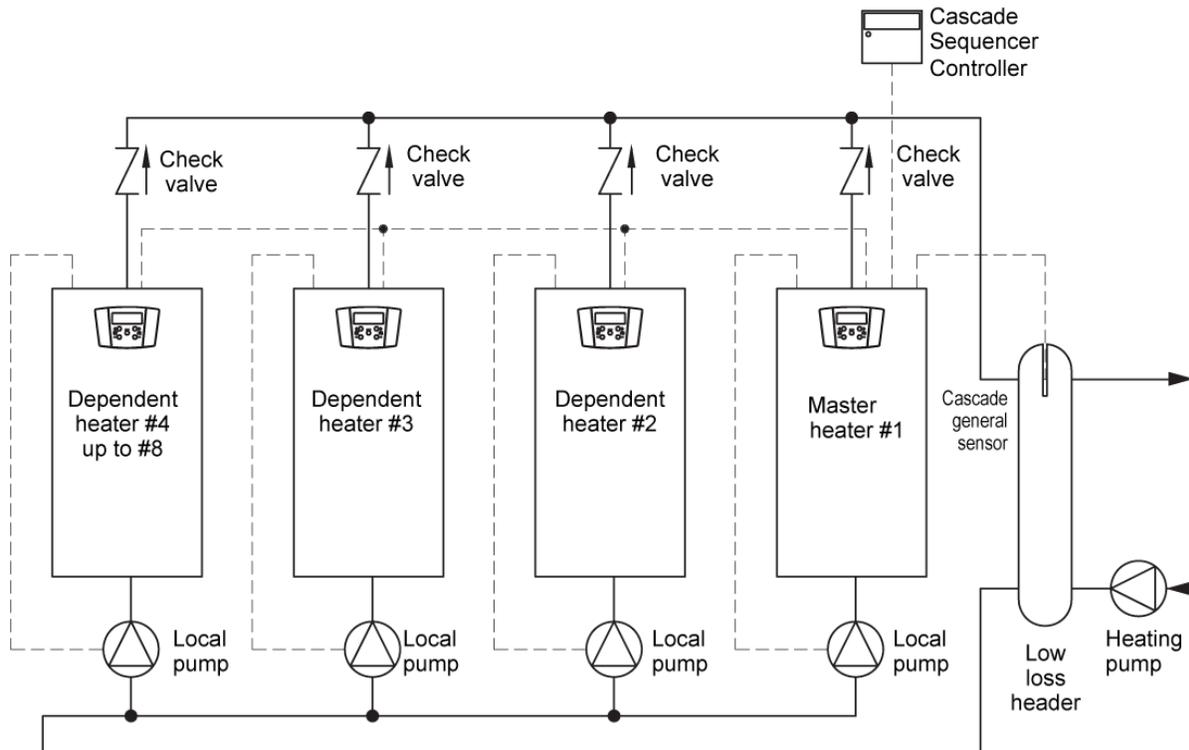
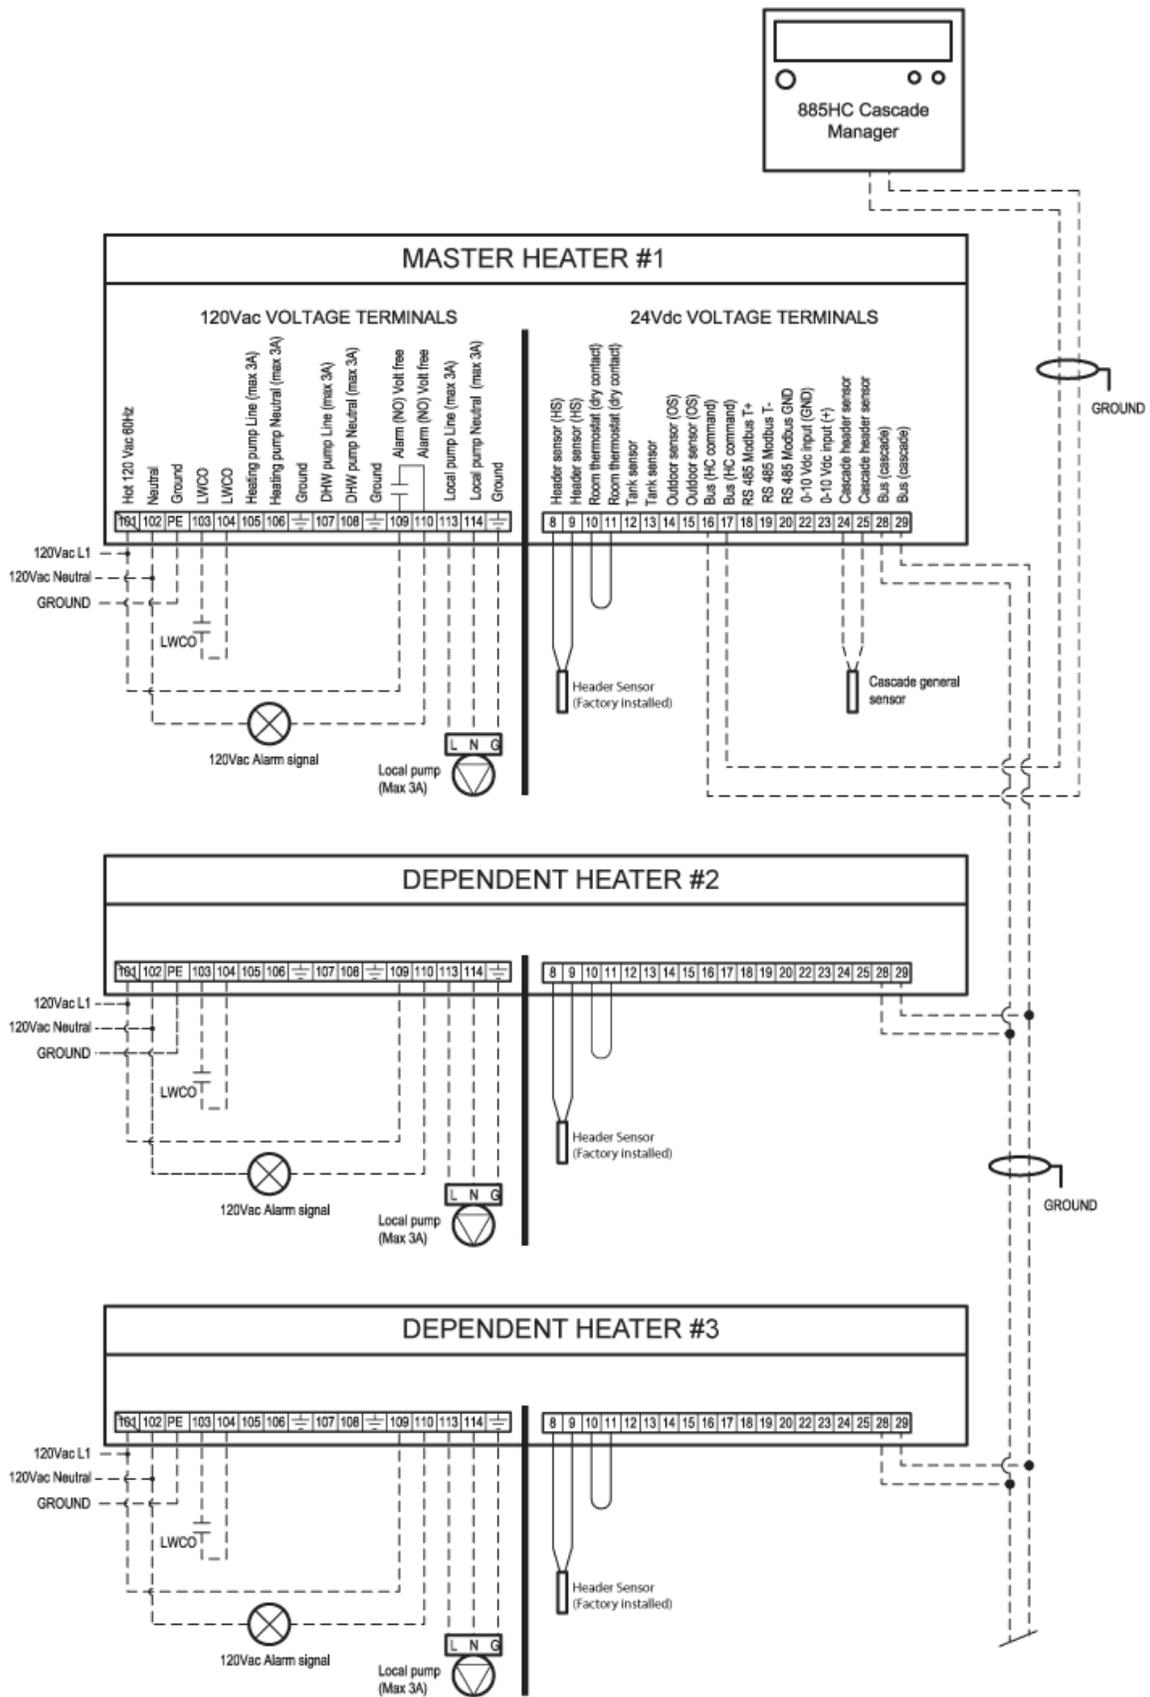

Figure 1-1: Cascade Sequencing Heater/Boiler Piping Installation
Figure 1-3a: Cascade Sequencing System Electrical Wiring (Units without Terminals 30 and 31)
In order for the AM Cascade Sequencer to operate correctly, the AM Series heaters must be installed as shown in Figure 1-1.
Figure 1-1 shows only one piping configuration example. Other piping configurations are possible. Contact AERCO technical support for information concerning alternative configurations.
- a) If terminals 30 and 31 are **NOT** present in the electrical junction box, refer to **Figure 1-3a**.
Installer must install all wires represented by dashed lines in Figures 1-3a and 1-3b. The "Cascade general sensor" is present inside each heater's accessory box. This sensor must be electrically wired to terminals 24 and 25 of the Master heater # 1 and placed into the low loss header of the cascade (see Figure 1-1).